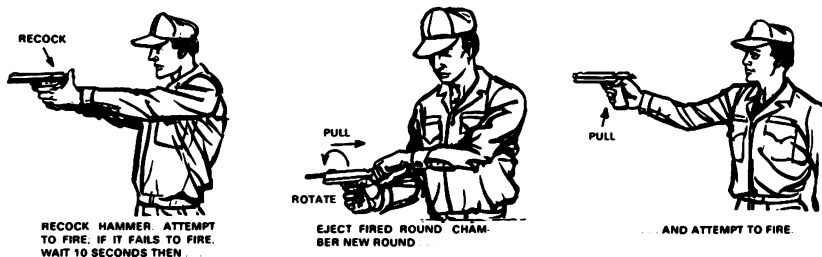

Figure 4.
4. Immediate action to reduce a stoppage (figures 4 and 5).